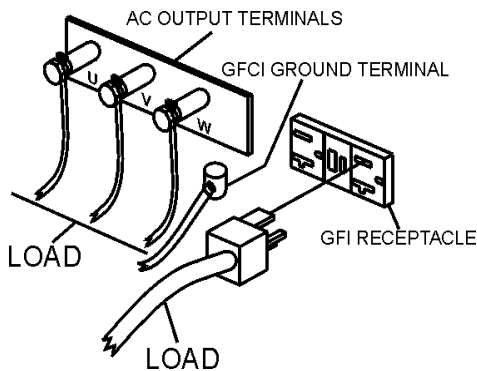

Figure 36. UVW Terminal Lugs (Load)
2. Once it is determined if commercial power is required, connect the load to the UVW terminals as shown in Figure 36. These terminals can be found on the output terminal panel, see page 36 Figure 15. To gain access to the output terminals lift the UVW cover. Make sure to tighten terminal nuts securely to prevent load wires from slipping out.
6. Remove the load from the UVW terminal strip (Figure 36).